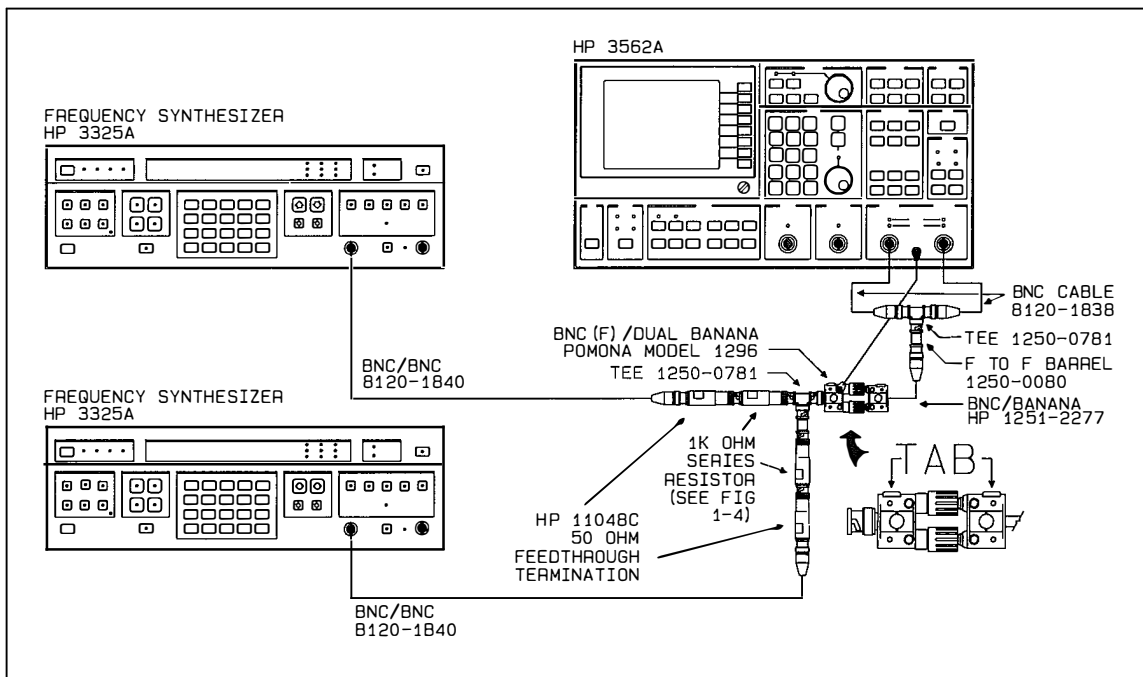

Figure 2-23 Intermodulation Distortion Test Setup #1
- A. Connect the test instruments as shown in figure 2-23. Keep the connecting cables as short as possible. Refer to "Initial Equipment Setup," paragraph 2-20, for unspecified parameters.
- G. Connect the test instruments as shown in figure 2-23.